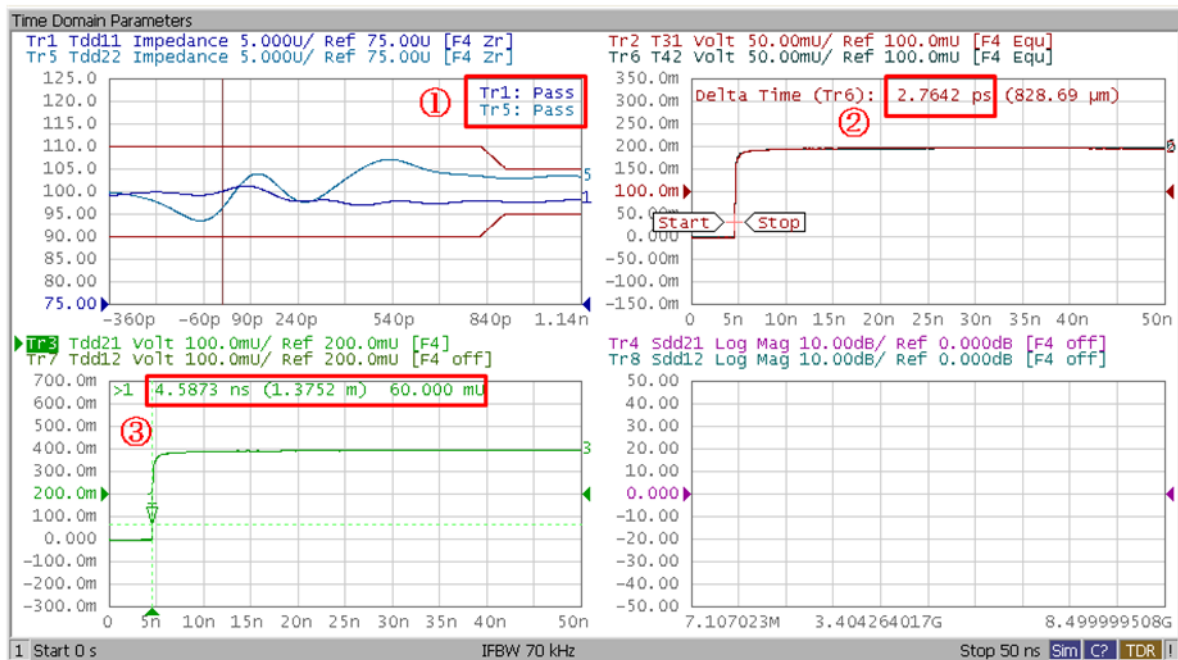

Figure 5-3: Time Domain Measurement Example
Read Pass/Fail signs on Trace1 and Trace5. (item1 in Figure 5-3)
Read the delta time between Trace2 and Trace6. (item2 in Figure 5-3).
6. Read the propagation delay (item3 in Figure 5-3), and write it down.